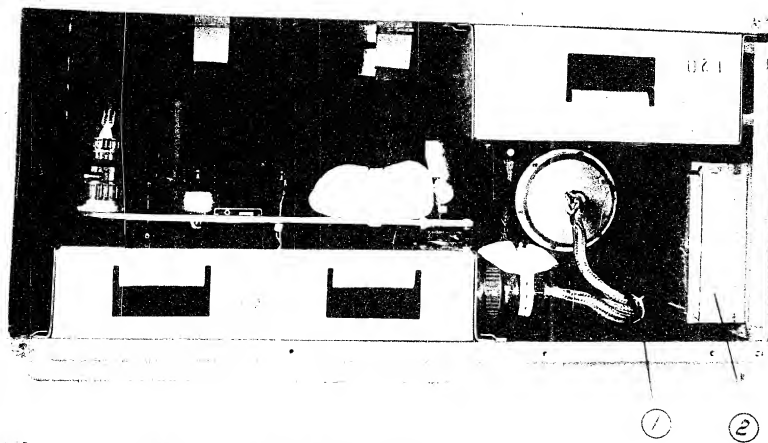

Fig. 4. H-1 and H-2 Units in Tare
Secure cables No.45 and 47 to cable No.44 by the tape with the button (1) and place them in the box (2, Fig.4) manufactured according to dwg. No.399.01.00.000, with the plug connector mating parts furnished with the autopilot set.